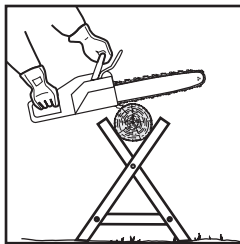

**Fig. 32**
3. When the log is supported on both ends (Fig. 32), cut 1/3 the diameter from the top (overbuck). Then make the finished cut by underbucking the lower 2/3 to meet the first cut.